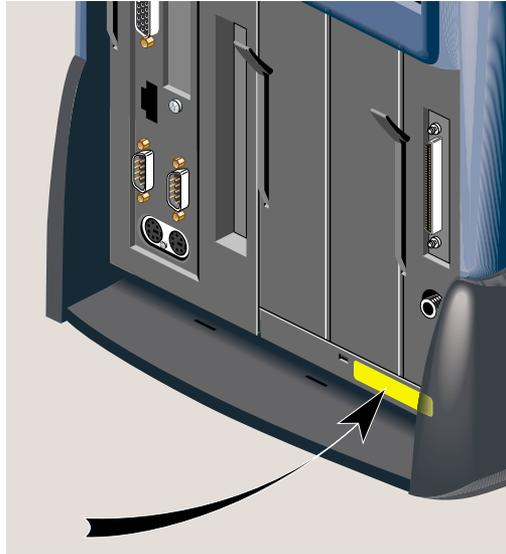

Figure 1-21 Locating the Serial Number On the Rear
- On the rear of the workstation, it is located on the bottom right beneath the audio visual module (Figure 1-21).